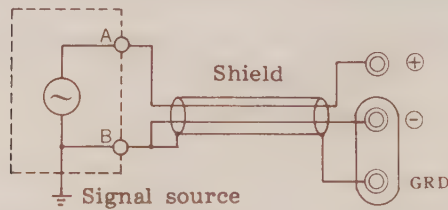

Fig. 4-2
- 1 For a normal signal source, the connection should be made as shown in Fig. 4-2 (with the shorting bar remaining connected).